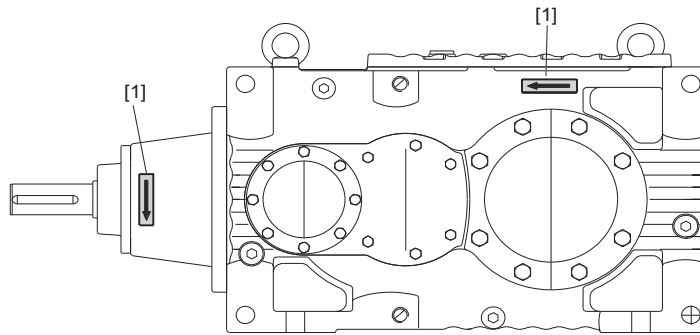

Figure 50: Arrow on the gear unit housing indicating the permitted direction of rotation
- Alter the direction arrow on the gear unit housing (Figure 50).